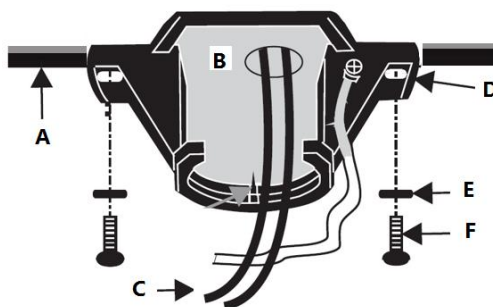

Fig. 7
Pass the power supply wires (C) from the ceiling outlet box (B) through the center of the ceiling mounting bracket (D). Install the ceiling mounting bracket (D) on the outlet box (B) with the mounting screws (F) provided with the outlet box and washers (E) provided with fan. Fig. 7